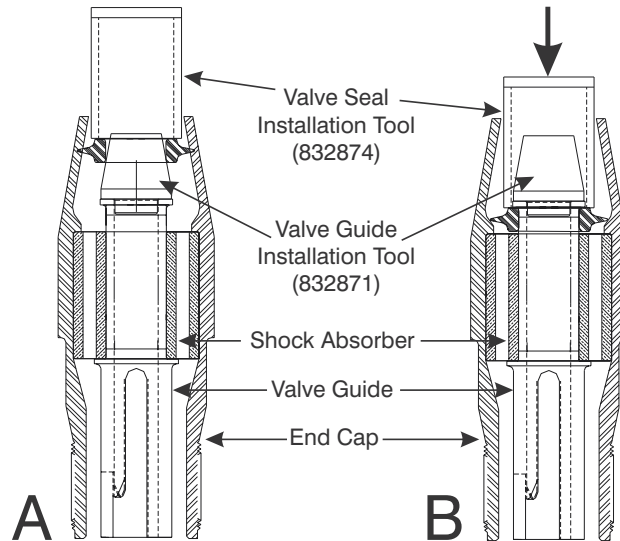

Figure 9-7. Press Valve Seal into End Cap and onto Valve Guide.
16. Look inside the non-threaded end of the End Cap and lubricate that part of the Valve Guide that protrudes from the Shock Absorber. See Figure 9-7-A.
18. Lubricate the Valve Guide Installation Tool 832871 and Valve Seal (10).
19. Place the Valve Guide Installation Tool 832871 into the Valve Guide. The smaller part of the cone faces up as shown in Figure 9-7-A.
20. Place the Valve Seal (10) around the cone of the Valve Guide Installation tool as shown in Figure 9-7-A.
21. Center the Valve Seal Installation Tool 832874 in the End Cap opening and above the Valve Seal and Valve Guide Installation Tool. See Figure 9-7-A.
22. With the Valve Seal Installation Tool 832874, press the Valve Seal into the End Cap until the seal seats between the Shock Absorber and the shoulder at end of the Valve Guide as shown in Figure 9-7-B.